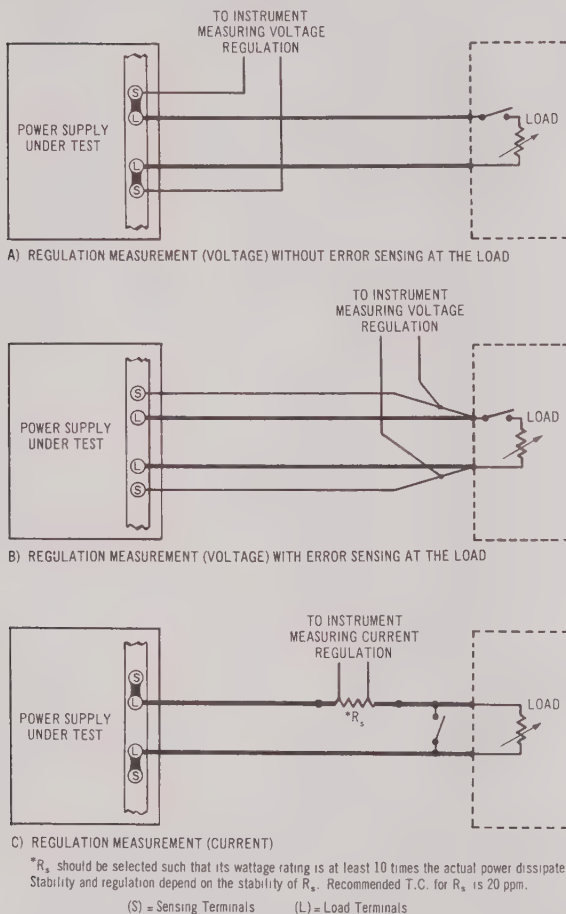
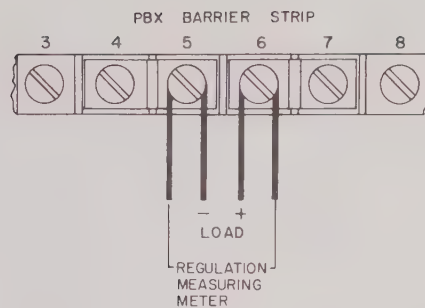

FIG. 5-3 POWER SUPPLY MEASUREMENTS, CONNECTING METHODS
FIG. 5-4 APPROXIMATION OF A FOUR TERMINAL NETWORK
(Refer to Fig. 5-3)
- b) The Four-Terminal Network is an essential device for precise measurement of regulation. It can be approximated by the method shown in Fig. 5-4. Fig. 5-3 shows the proper location of instrument